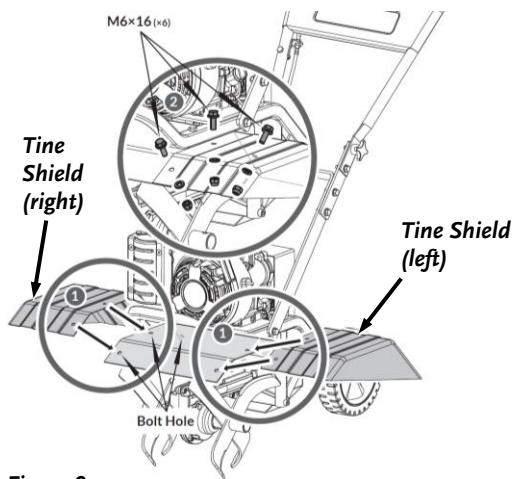

Figure 9
9. Install the Tine Shields with six M6x16 Bolts, Flat Washers, and M6 Lock Nuts using two 10mm Wrenches (**Figure 9**).